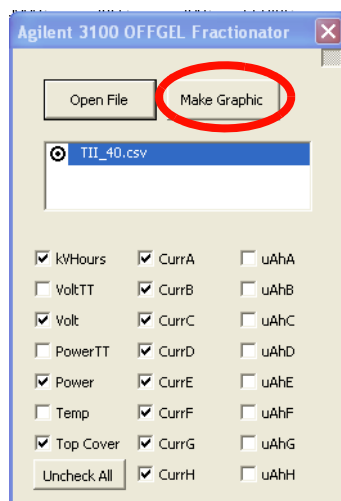

Figure 21 Agilent 3100 OFFGEL Fractionator user interface - result file opened.
- 5 The file name of the loaded file appears in the Agilent 3100 OFFGEL Fractionator list box (Figure 21)